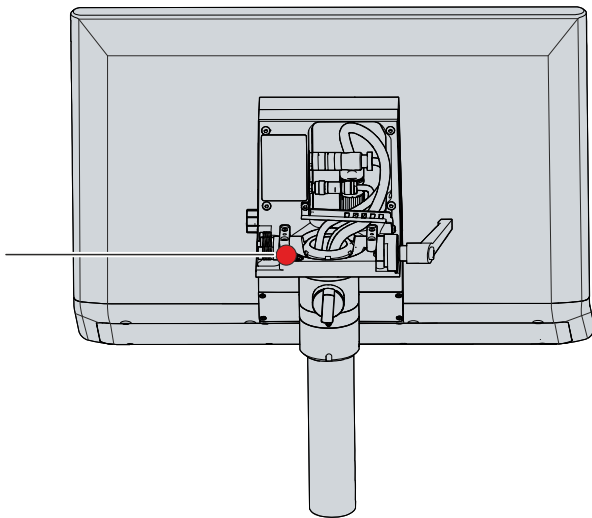

Fig. 27: Protective conductor connection PE
The control panel connections in the mounting arm adapter feature a protective conductor connection (PE), which must be used to establish the low-resistance protective earthing and functional earthing of the panel (see Fig. 27).